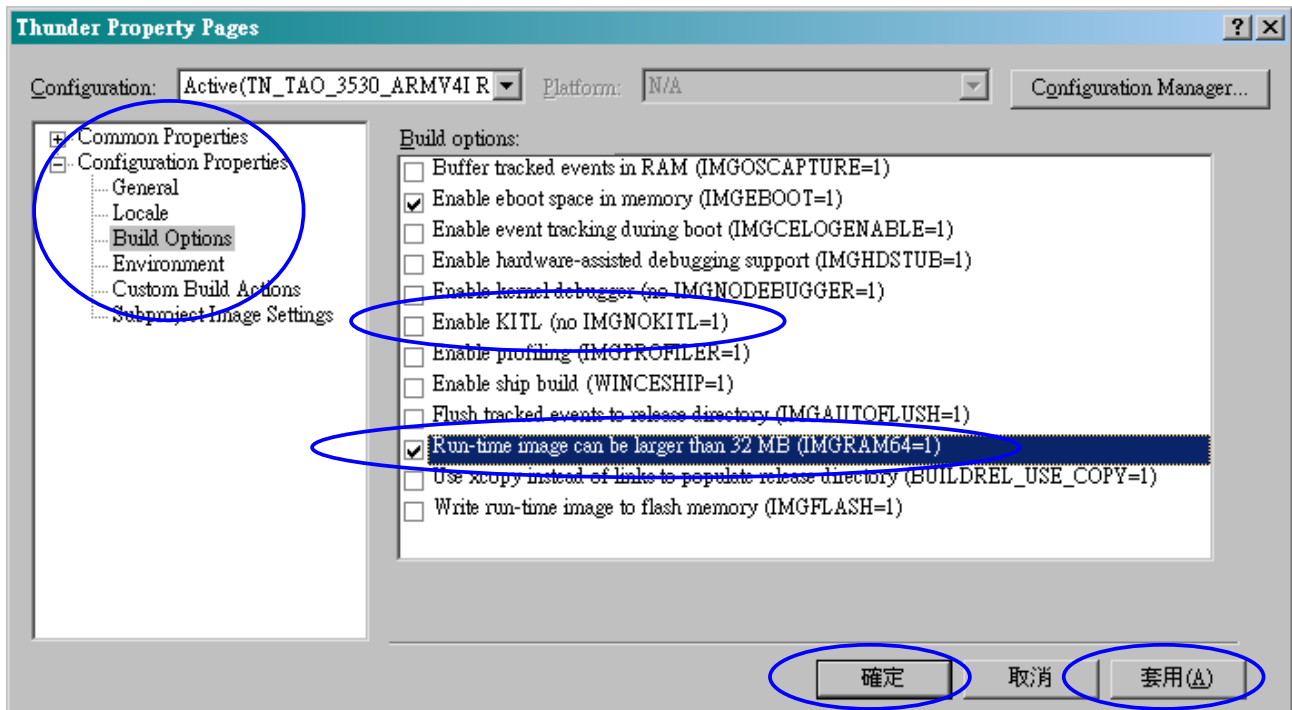

Figure 167
- Click “Configuration Properties → Build Options”. (See Figure 167)
- Click “Apply (A)”. Then click “OK” option.